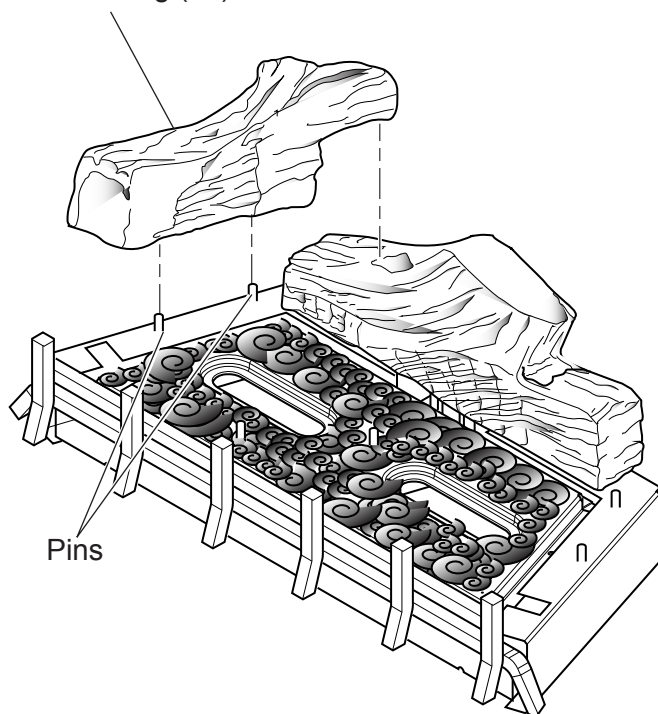

Figure 20 - Installing Left Log #2
5. Line up the holes in the bottom of the left base log (#2) with two (2) pins on the left side of insert. Install left base log. *See Figure 20.*